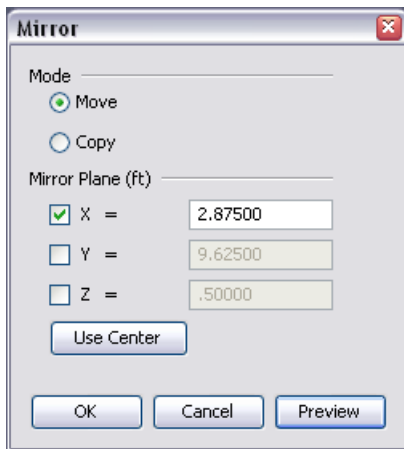

Figure 10.2. The mirror dialog
3. This will show the Mirror dialog as in Figure 10.2.